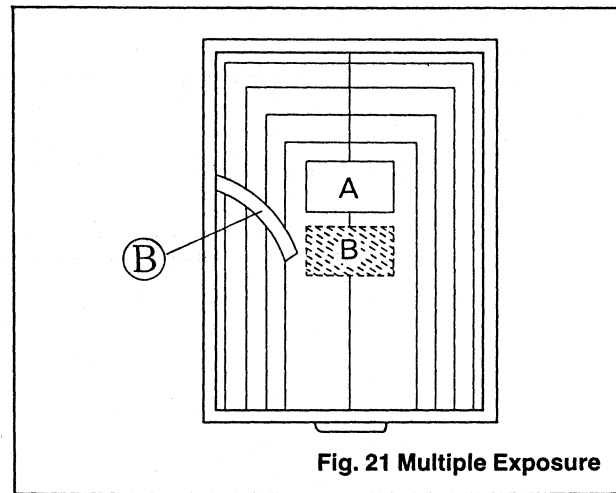

Fig. 21 Multiple Exposure
Put a sheet with the same density as the mechanical or copy background at part (B) of the copy positioning sheet. If the sheet is higher in density than the mechanical, the actual exposure time will be longer than the time set on the exposure timer. See Fig. 21.